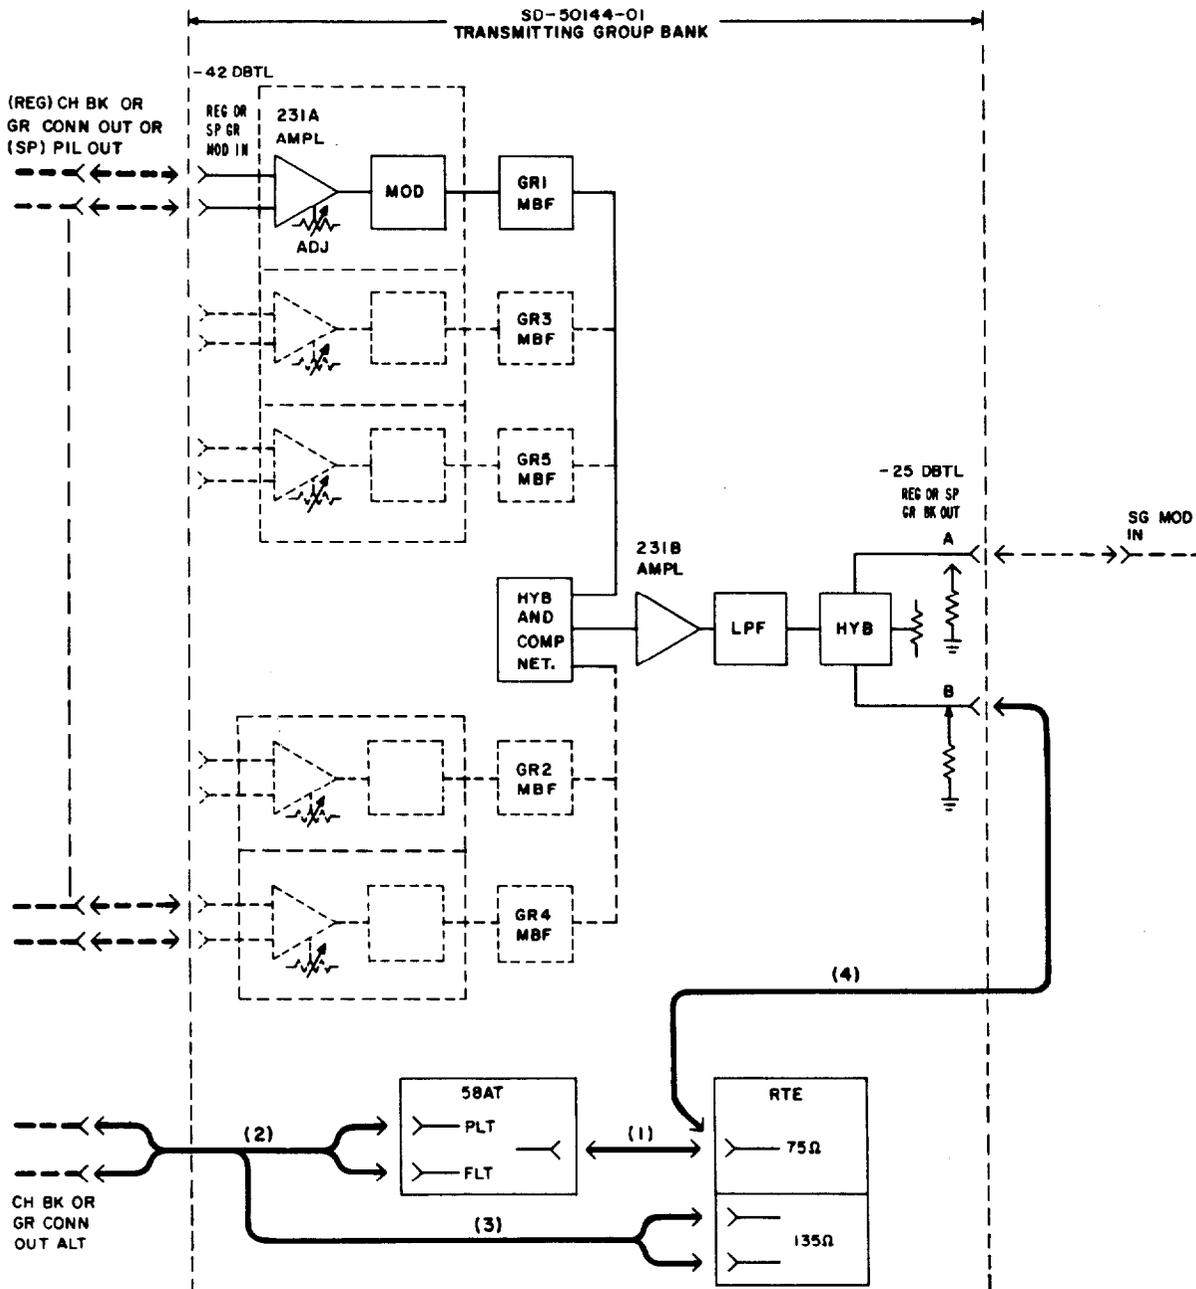

Fig. 8— N3-L Group Modulator In-Service Gain Test
2	Connect the output of the pilot filter set to the RTE [patch (1), Fig. 8].
4	Connect the input of the pilot filter set to the CH BK OUT ALT or GR CONN OUT ALT jack [patch (2), Fig. 8]; measure the power of the 104.08-kHz pilot.
| 7 | Connect the RTE to the CH BK OUT ALT or GR CONN OUT ALT jack [patch (3), Fig. 8]; record the RTE indication (combined power of the 104.08-kHz pilot and 104.00-kHz N3 carrier signal). |
| 9 | Connect the RTE to the GR BK OUT B jack [patch (4), Fig. 8]; tune the RTE to the translated pilot (Table C). |